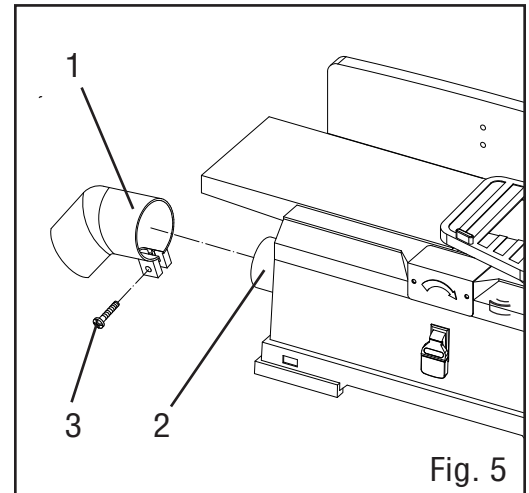

Fig. 5
1. Slide the dust chute (Fig. 5 - 1) onto the end of the chip exhaust (Fig. 5 - 2).
2. Tighten the Phillips-head screw (Fig. 5 - 3) to secure the dust chute on the chip exhaust.